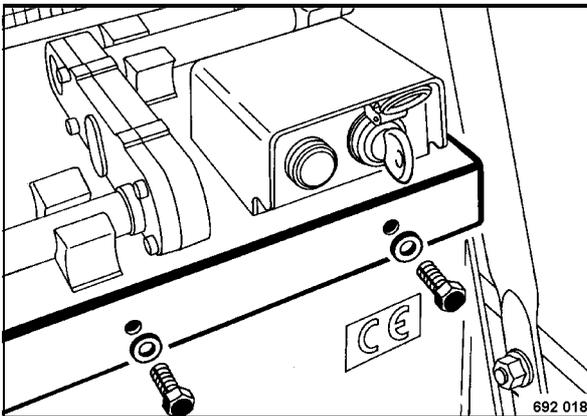

Fig. 57
- Unscrew the fastening screws (Fig. 57) for the covering flap and fold the cover down.